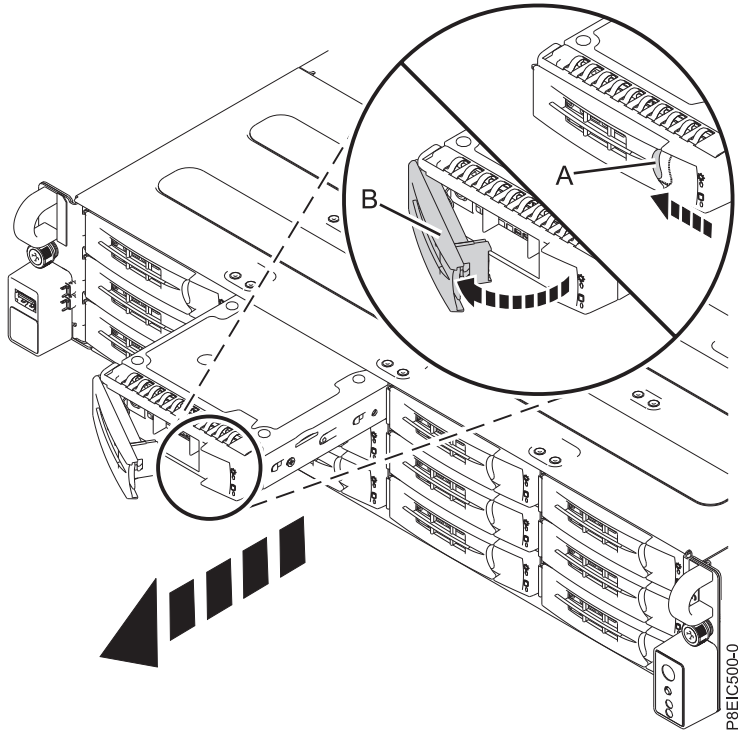

Figure 1. Removing a front drive tray
4. Unlock the drive tray handle by pushing the handle release **(A)** in the direction shown. The handle **(B)** snaps out towards you. If the handle does not snap out all the way, the drive tray does not slide out of the system, as shown in Figure 1 on page 4.